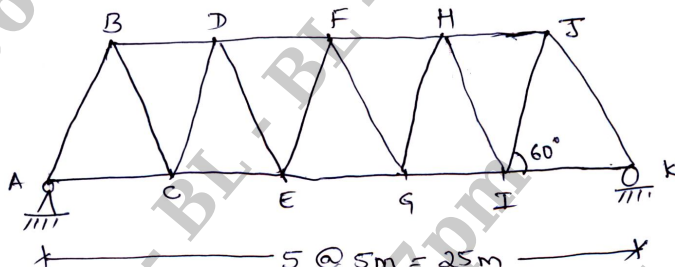

Fig.Q4
- 4 Determine the maximum forces in members CE, DE and DF of the truss shown in Fig.Q4, due to a dead load of 10 kN/m and a moving load of 20 kN/m over the lower chord of the truss.